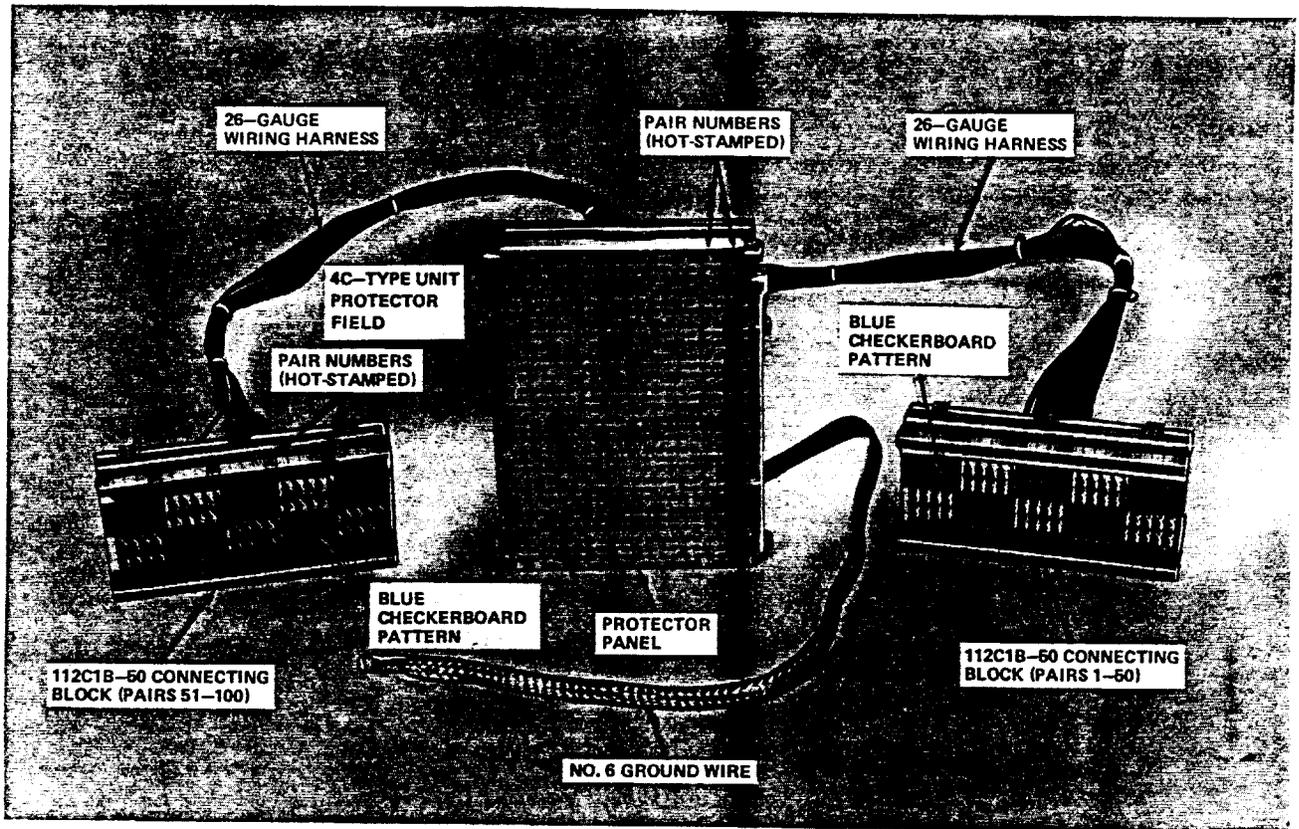

Figure 11. 307E1-100 Connector — Front View
2.17 The 307E1-100 connector (Figures 11 and 12) has a protector panel interconnected to one 50-pair 112C1B-50 connecting block and to one 50-pair 112C2B-50 connecting block. The blocks are stenciled and used on shelves 1 and 11 of the **COSMIC** II and IIA frames.